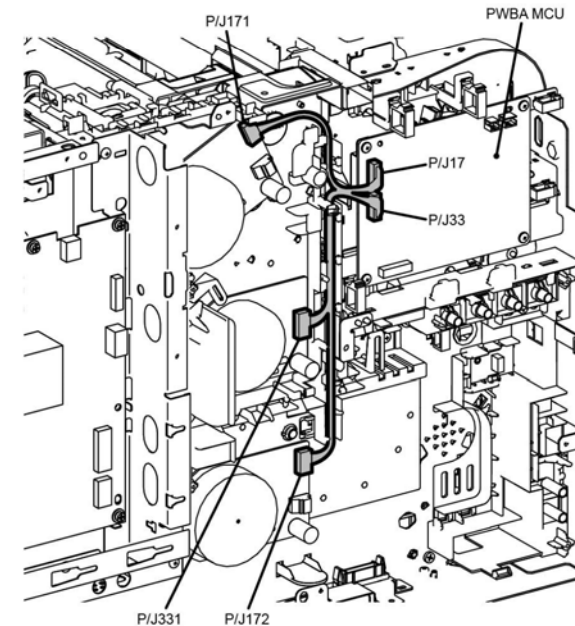

Figure 1 Drive harness
1. Refer to Figure 1 to locate the drive harness assembly.